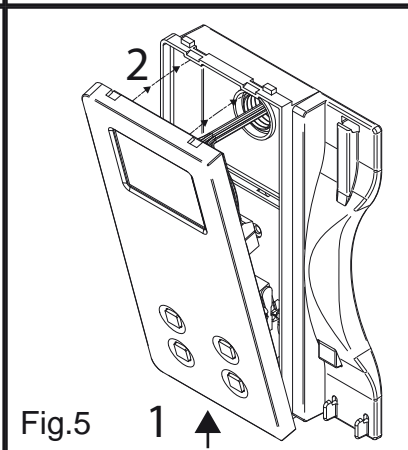

Fig.5
- Once testing is complete and all the necessary adjustments are made, disconnect the handset from the cover and close the unit as shown in figure 5: first hook it on the bottom part then on the upper side until you hear the clip.